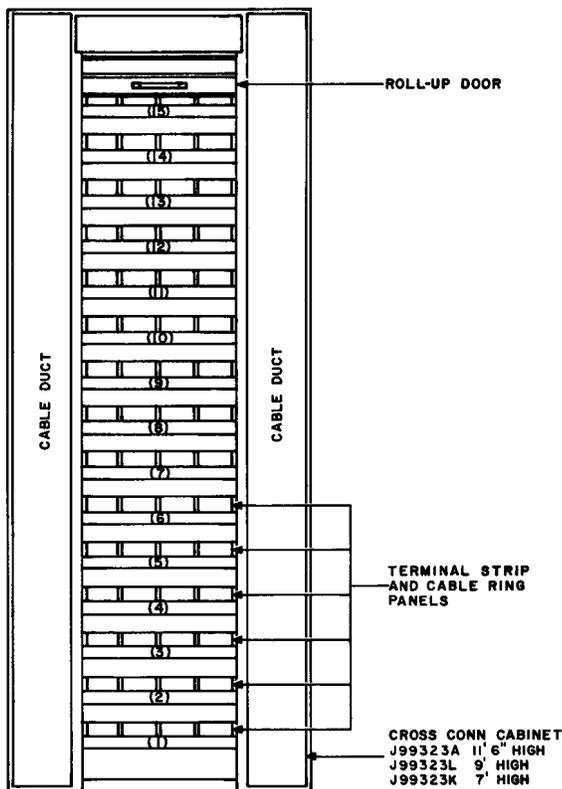

Fig. 5 — N2 Cross-Connection Cabinet Double-Bay Framework
2.19 *The J99323A cross-connection cabinet* shown in Fig. 5 is a double-bay arrangement 52-7/8 inches wide and mounts on 53-inch centers. The 15 terminal strip and cable ring assembly panels can be mounted in the framework to connect up to 1800 carrier pairs to N-type terminals, to N- and ON-type repeaters, and to other miscellaneous equipment. The equipment is assembled and wired in the field.
2.21 *The J99323L cross-connection cabinet* is a double-bay arrangement 52-7/8 inches wide, mounts on 53-inch centers, and is similar to the unit shown in Fig. 5 except that the height has been reduced to 9 feet. The 11 terminal strip and cable ring assembly panels can be mounted in the framework to connect up to 1320 carrier pairs to N-type terminals, to N- and ON-type repeaters, and to other miscellaneous equipment. The equipment is assembled and wired in the field.
2.23 *The J99323K cross-connection cabinet* is a double-bay arrangement 52 inches wide, mounts on 52-1/8-inch centers, and is similar to the unit shown in Fig. 5 except that the height has been reduced to 7 feet. The eight terminal strip and cable ring assembly panels can be mounted in the framework to connect up to 960 carrier pairs to N-type terminals, to N- and ON-type repeaters, and to other miscellaneous equipment. The equipment is assembled and wired in the field.